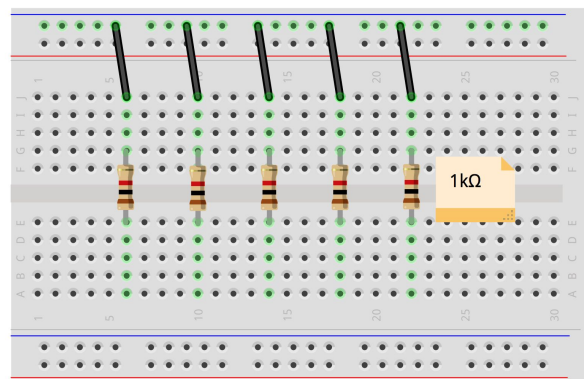

Figure 2.2
2. Hook up the resistors and 5 ground wires on a breadboard shown in **Fig 2.2 below**. **Space them evenly** and use 1k Ω (brown-black-red). Don't worry about its connection to Arduino yet. (Will add those in the next challenge)